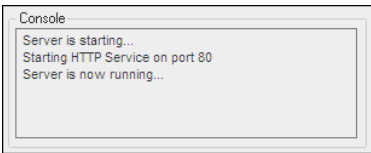

Figure 11—RIP-Queue Console
1. Open **RIP-Queue**. In the bottom right corner of the window, the message “Starting HTTP service on port 80” displays in the **RIP-Queue console** (see Figure 11).